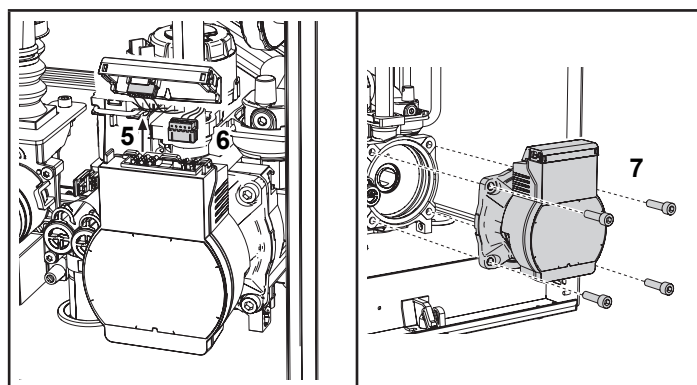

fig. 52 - Replacement/maintenance of the heat pump circulator
- Unscrew and remove the circulator motor unit ("7" of fig. 52) and remove the circulator.